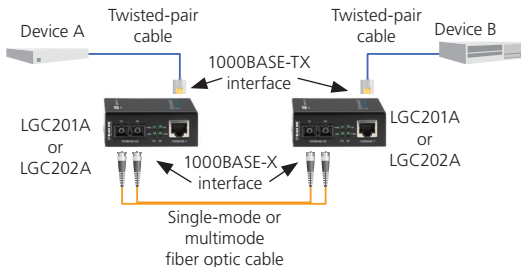

Figure 3-1. Application using two converters.
1. Place two converters back to back between the end devices as shown in Figure 3-1.